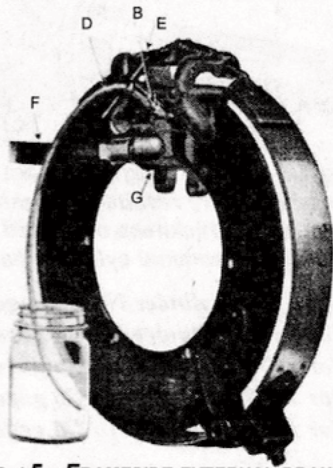

FIG. L5 - FRAMESIDE EXTERNAL BRAKE SHOWING BLEEDER WRENCH AND HOSE ATTACHED.
4. Air in the system can be removed only by bleeding. Best results will be secured by using the methods shown in Fig. L6 and L7, but bleeding may be done by using dash supply tank as a source of fluid. First, fill the supply tank and replace the pump rod, but do not screw it down on its seat. Remove dust screw from bleeder connection (B Fig. L5) on wheel cylinder. Force end of bleeder hose over bleeder connection, or screw in fitting of hose, depending upon type of bleeder connection. Allow bleeder hose to hang in a bottle or container. Unscrew bleeder connection (B) about three-quarters of a turn.